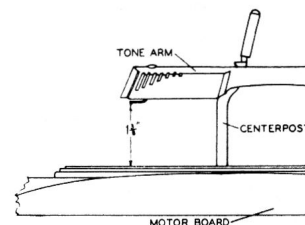

Figure 4
2. Turn the adjustment screw "A" until the sapphire is $1\frac{1}{2}$ inches above the turntable. This adjustment will permit the pickup to land and play one record placed on the turntable. At the same time it prevents the tone arm from touching the record resting on the centerpost while the mechanism is going through cycle. (If this height cannot be reached by the adjustment screw, take up on the cotter pin.) (Figures 4 and 5.)